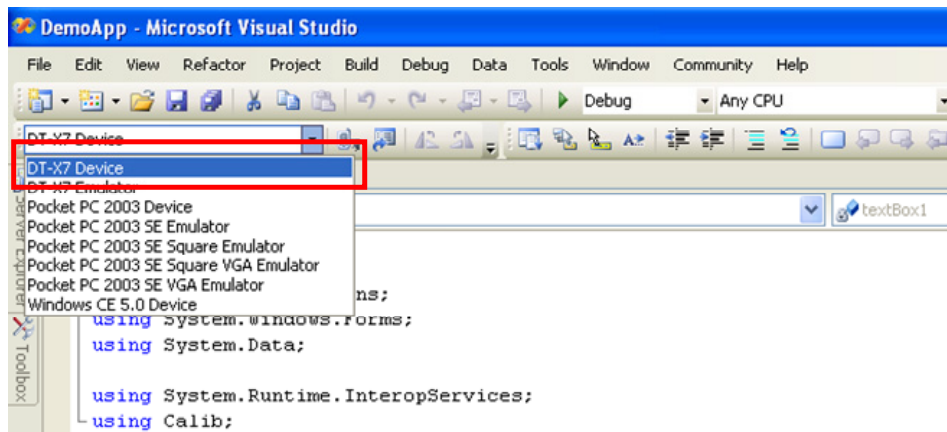

Figure 6.2
4. Choose **DT-X7 Device** in the pull-down menu box in Figure 6.2.